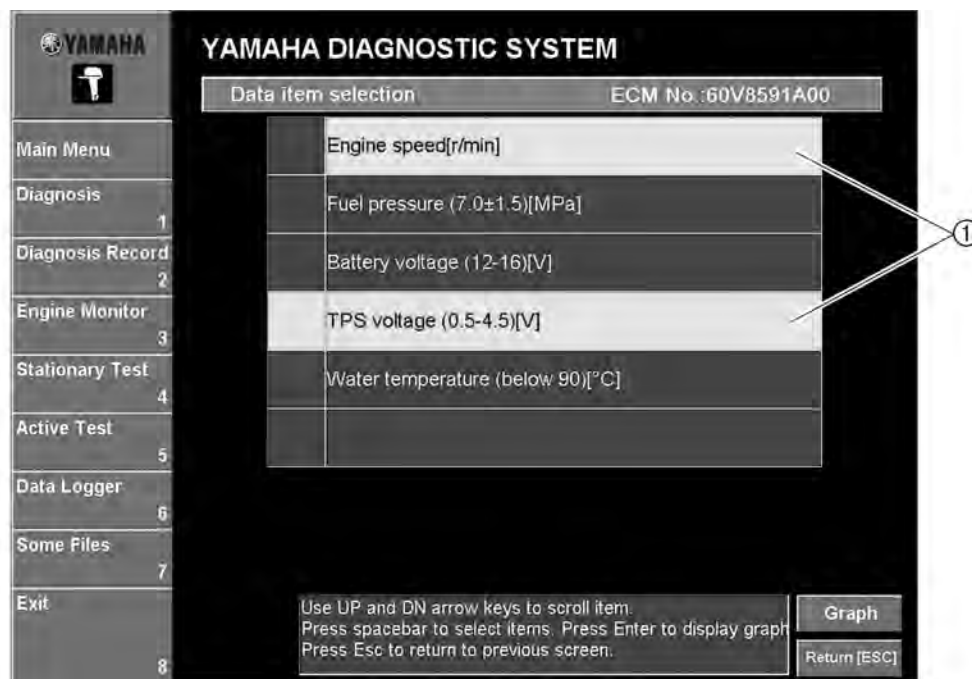

Fig. 109
2. Select the desired items by either clicking them or pressing the up or down arrow keys on your keyboard, and then press the space bar. (Fig. 109)
3. Click the **Graph** button or press the Enter key on your keyboard. (See fig. 109.) The **Data comparison** window is displayed. (Fig. 110)